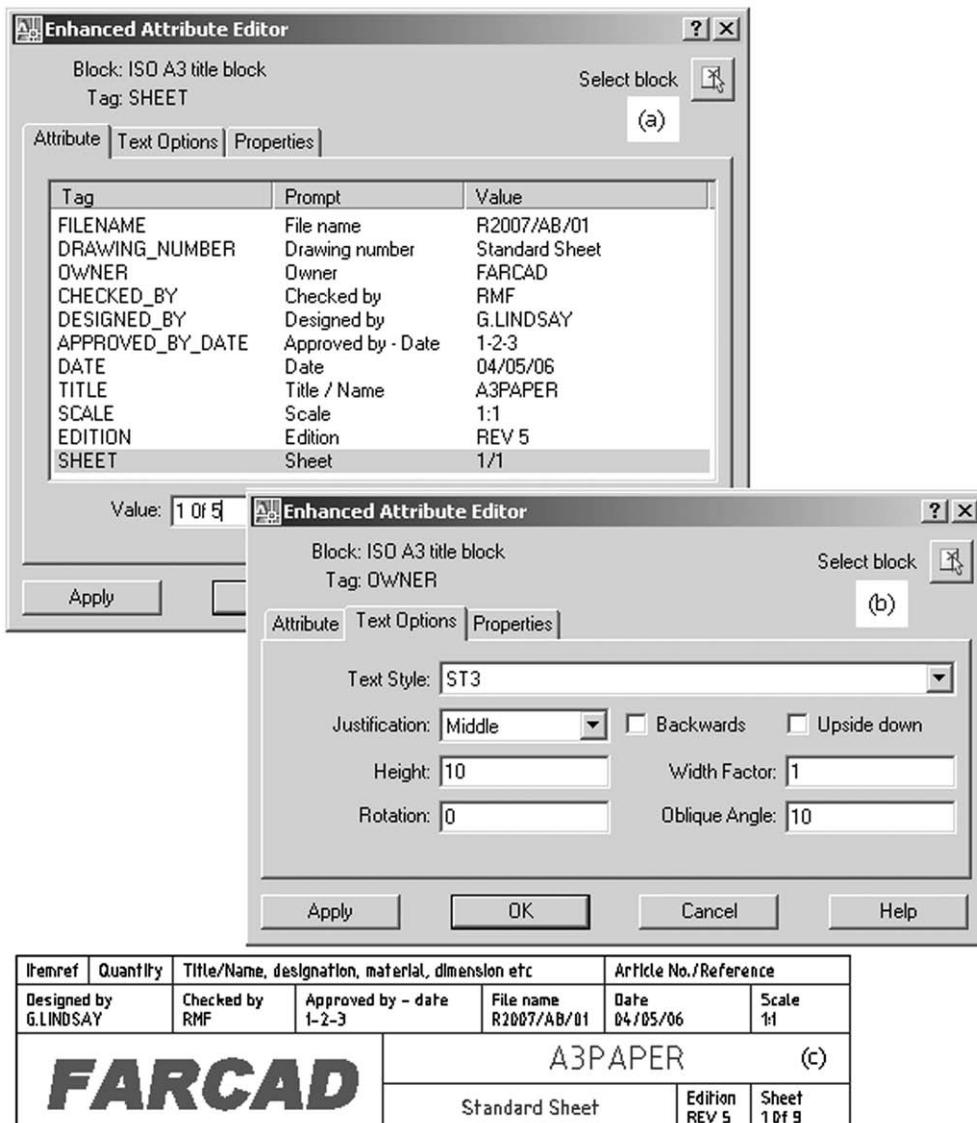

Figure 34.4 The Enhanced Editor dialogue box and the title block with all the edited attributes.
6. the dialogue box should resemble Figure 34.4(a) so pick **Apply then OK**
c) Oblique Angle: alter to 10 – Figure 34.4(b)
- and the title block will be displayed with the entered modifications – Figure 34.4(c).